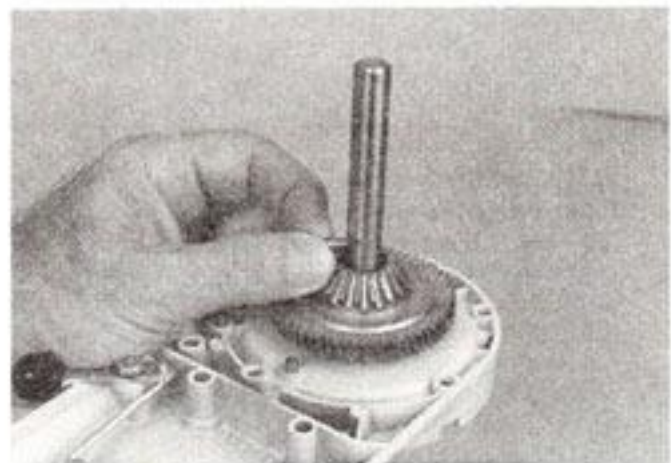
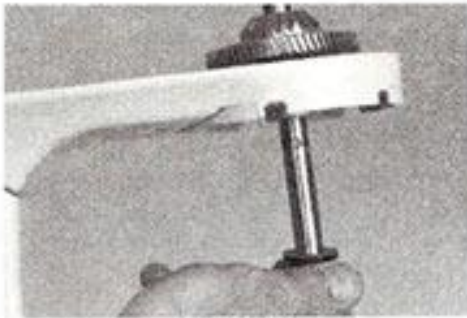

Fig. 54
Fig. 55
- D. Remove the center gear, bevel gear and vertical center shaft. Push vertical center shaft upward exposing pin (Fig. 54).
Pull out with fingers. Remove shaft from bottom of gear case cover (Fig. 55). Check shaft for bearing wear. Dark gray or indented surfaces indicate shaft should be replaced. Lift gears from case for inspection (Fig. 56).
- G. Place the same washer on lower center bearing. Place the gear assembly on top of center bearing. Insert end of vertical shaft opposite "O" ring into bottom of lower gear case (Fig. 55). Push shaft upward and insert pin (Fig. 54). Center pin in shaft and lower shaft into gear assembly. Turn shaft until pin seats and gears and shaft turn together. Wipe all excess lubricant from bottom of vertical shaft on "O" ring.